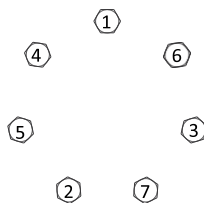

Figure 3
- b) Place body seals (8) in grooves in both sides of rotor set (18).
- c) Place rotor (18) onto manifold (17) with side of rotor with chamfer in splines facing manifold (17).
10. Install balance plate (19) onto rotor (18) making sure holes for steel balls faces up and that all three balls (20) are seated in the holes.
- a) Install endcover seal (9) into groove in endcover (21) and place endcover onto balance plate (19).
- b) Install seven assembly bolts (22) and pre-torque to 13.6 Nm [10 ft-lb].
- c) Using the bolt torque sequence shown in Figure 3, final torque all bolts to 67.8 [50 ft- lb].